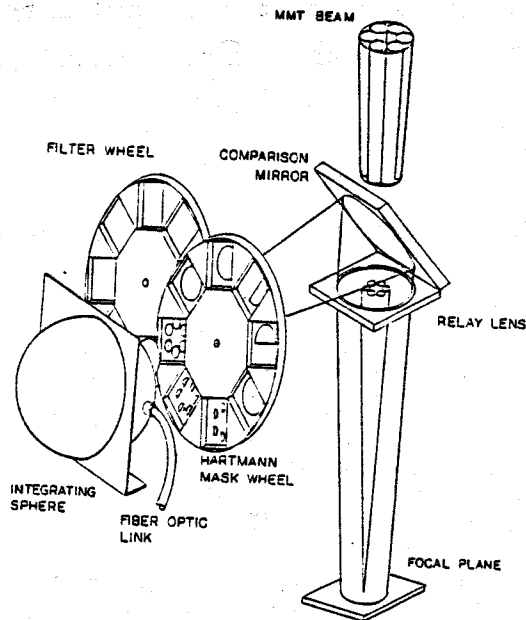

Figure 2.2: Comparison lamp feed layout.
4. Filter Wheels: Two filter wheels are mounted in front of the comparison lamp feed. One of them contains neutral density filters; the other, Hartmann masks. Note from Figure 2.2 that they do *not* occult the beam from celestial sources.